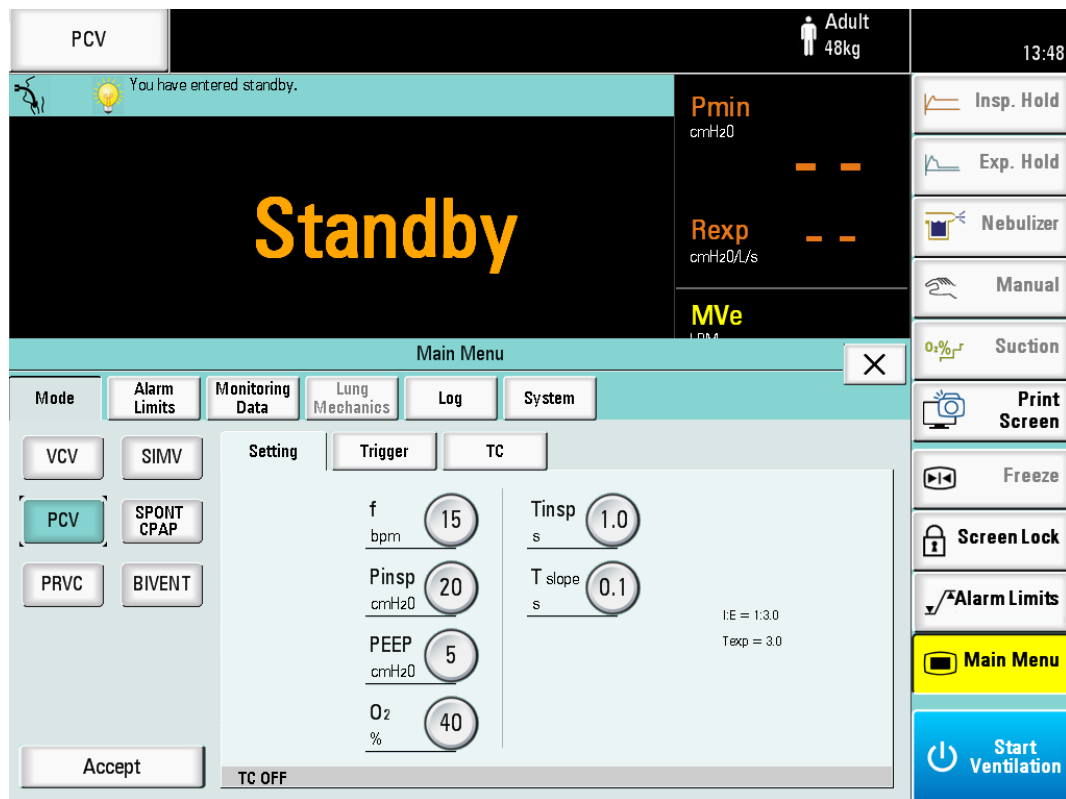

Figure 6-19
Step 1: Click  in the shortcut buttons area to enter the Main Menu, then click  to enter mode Setup interface, as shown in Figure 6-19.